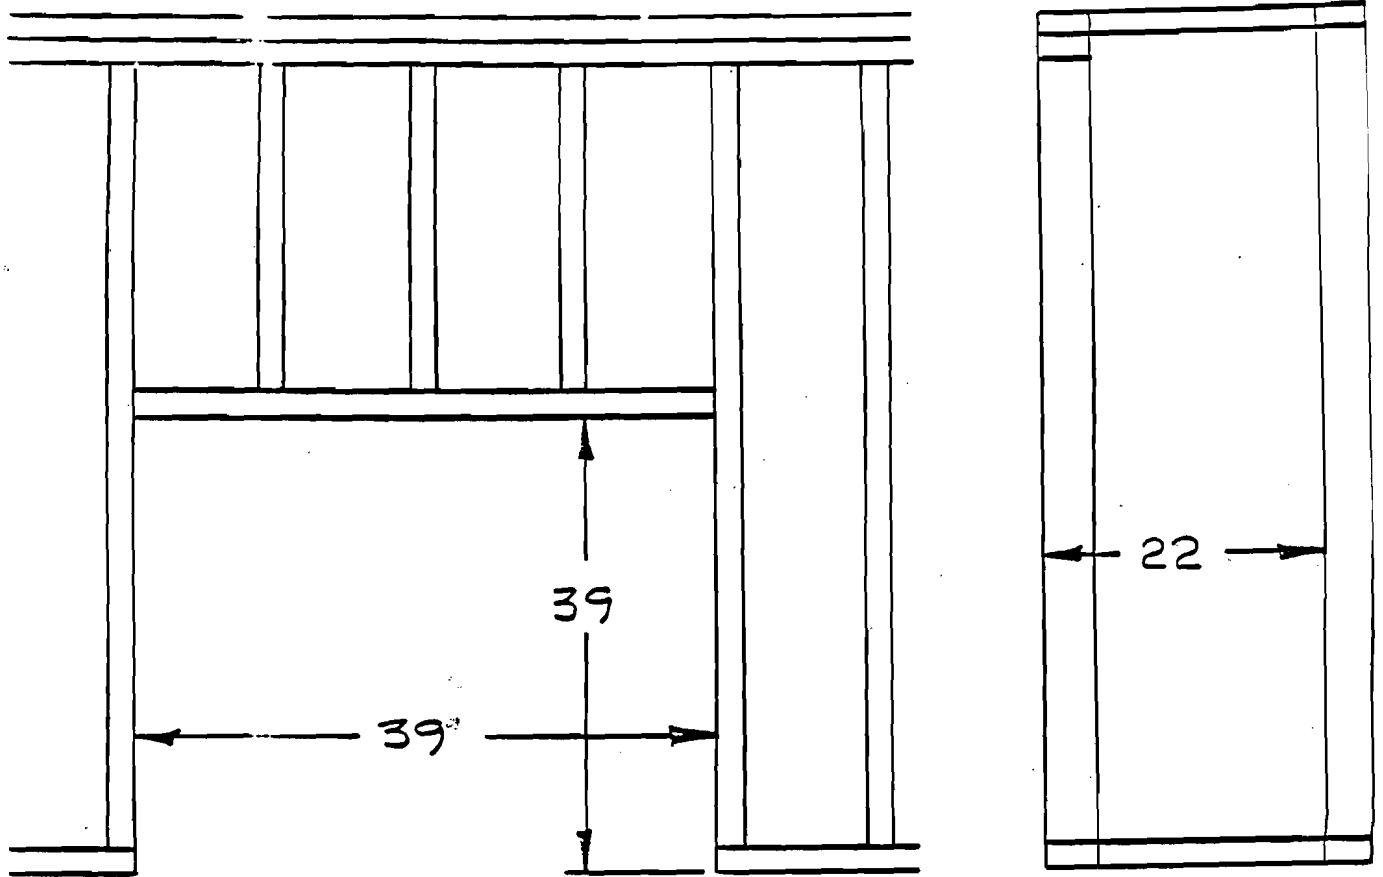
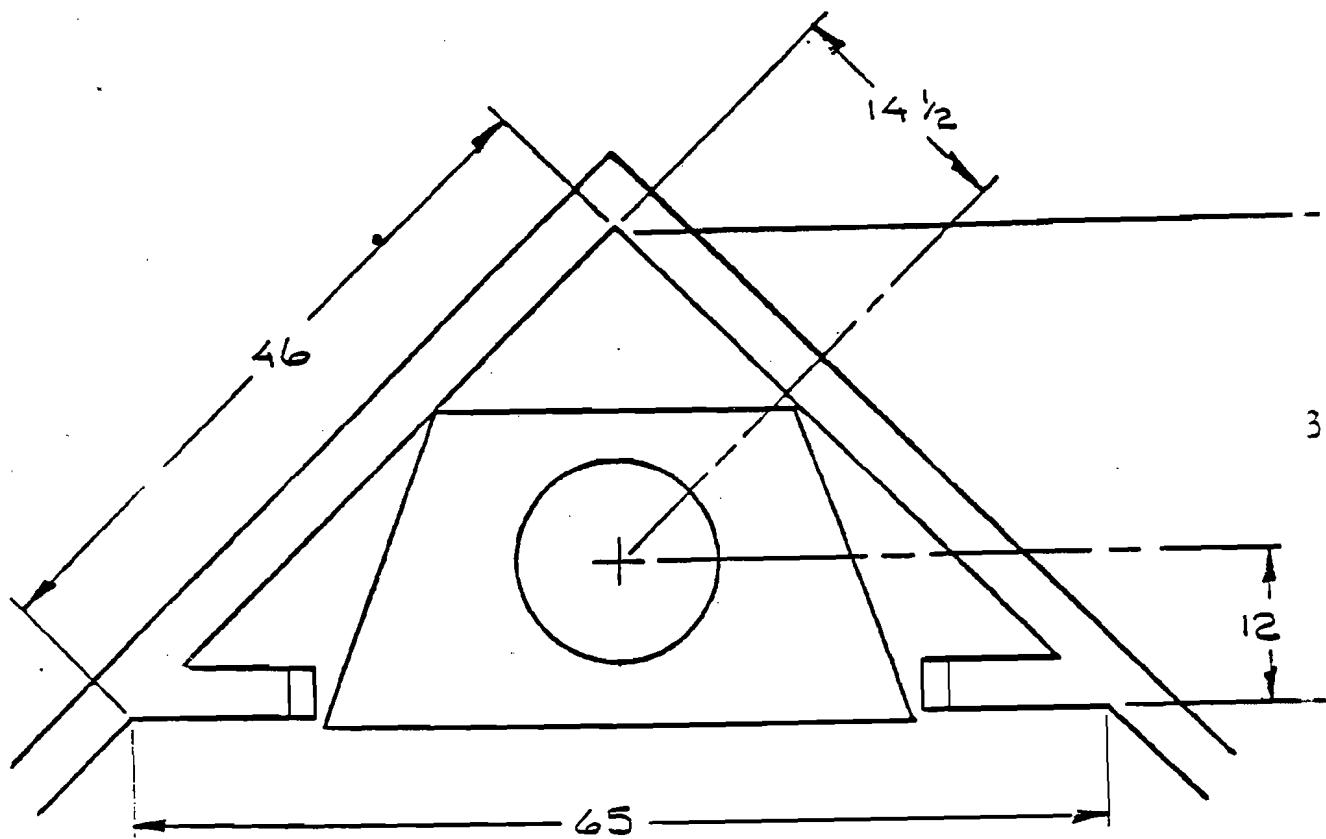

FIG. 1 FRAMING
FIG. 2 CORNER FRAMING
- Step 1: Frame the opening for the fireplace using the dimensions shown in Fig. 1 or Fig. 2.